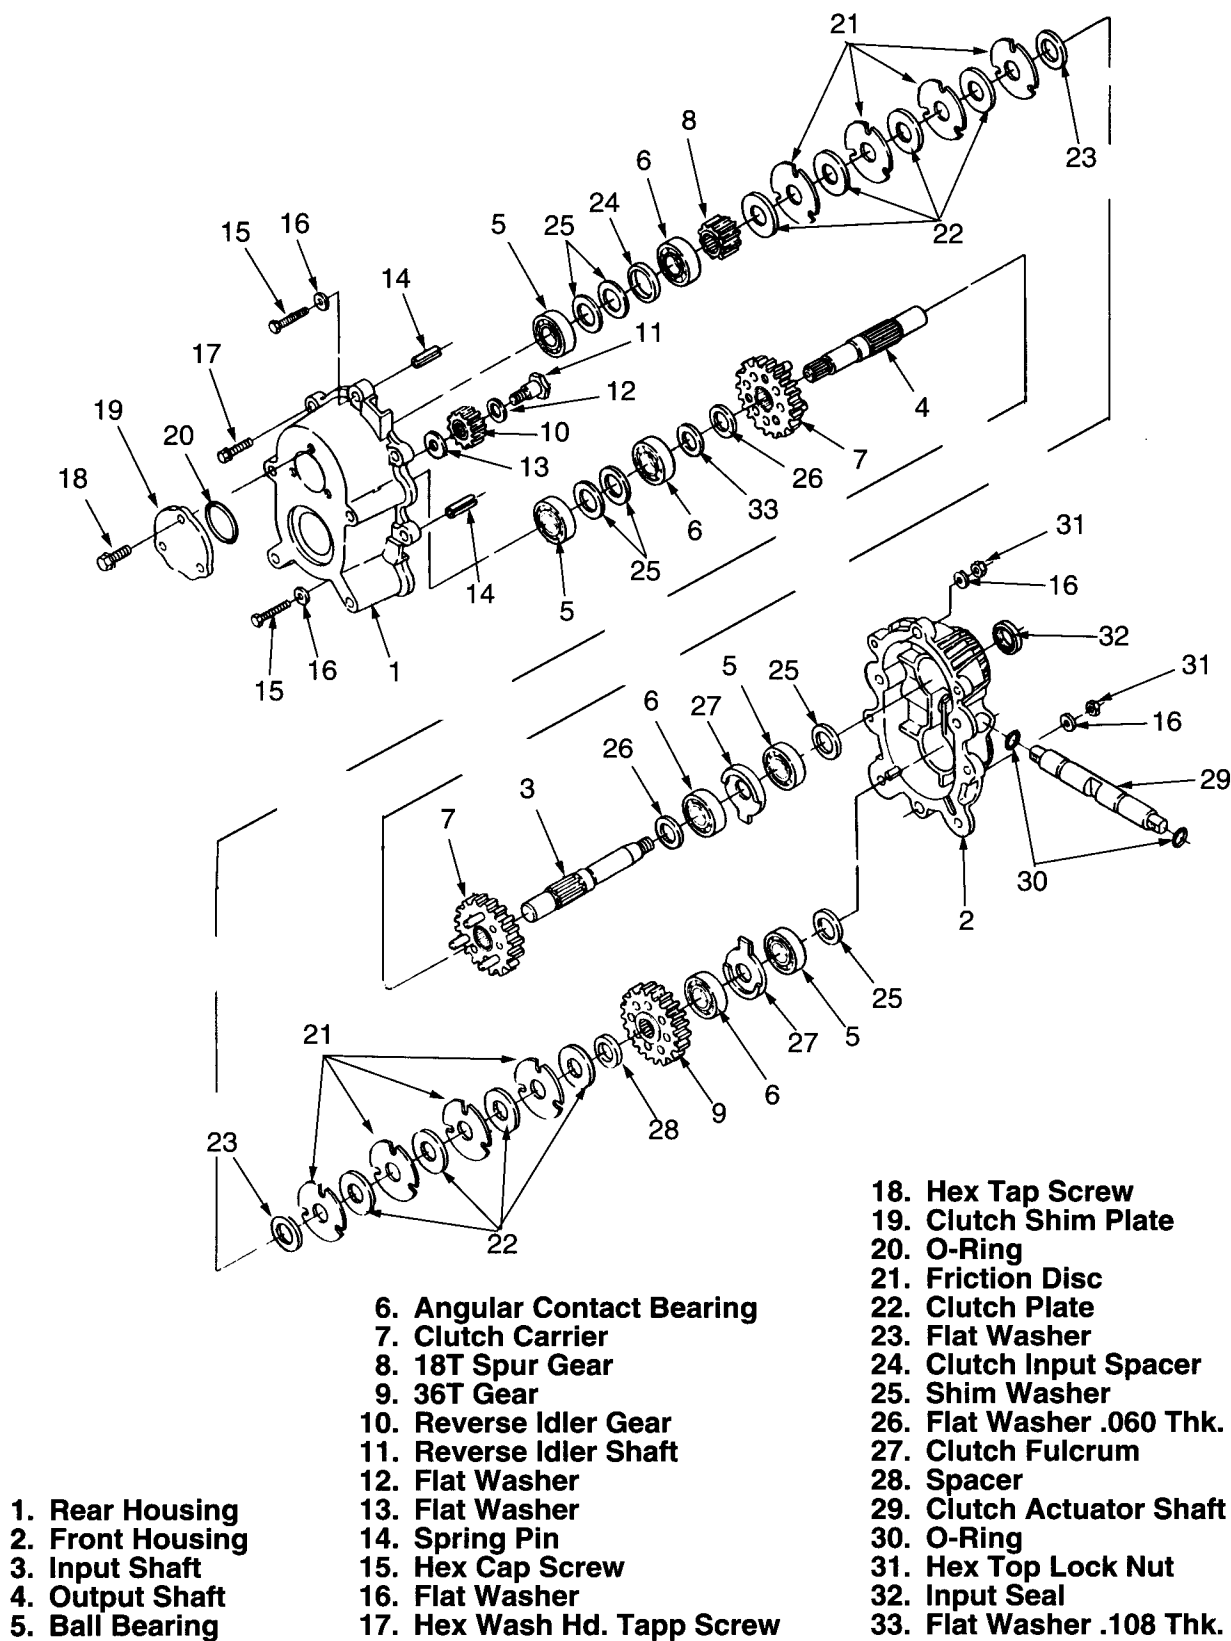

Figure 5-28. Clutch Assembly (Models 2130, 2140 and 2160).
- a. Remove the hex cap screws (15, Fig. 5-28), flat washers (16), and hex top lock nuts (31) from the top and bottom of the clutch assembly. Note the neutral bracket (18, Fig 5-27) is also fastened with the bottom screw.
- b. Place the clutch assembly in the holding fixture with the front housing (2, Fig. 5-28) facing downward.
- c. Using a drift punch, drive the spring pins (14) from the top and bottom of the clutch housing.
- d. Remove the clutch shim plate (19) and O-ring (20) by removing the hex tap screws (18). Discard and replace the O-ring.
- e. Using a hook tool, lift the ball bearing (5), shim washer(s) (25), clutch input spacer (24), and angular contact bearing (6) from the input shaft (3). It is not necessary to remove the bearings from the output shaft at this time.
- f. Remove the four hex wash. hd. tapp screws (17) fastening the front and rear housings.
- t. Position the neutral bracket (18, Fig. 5-27) on the clutch housing and install the hex cap screws (15, Fig. 5-28), flat washers (16), and hex top lock nuts (31) in the top and bottom of the clutch housing.
- u. Through the opening in the rear housing, slide the angular contact bearing (6) onto the output shaft. The load supporting (wider) side of the bearing's outer race MUST face upward.
- v. Determine the correct shim requirement and install the ball bearing (5) as follows:
- 1. Install the ball bearing (5) on the output shaft.